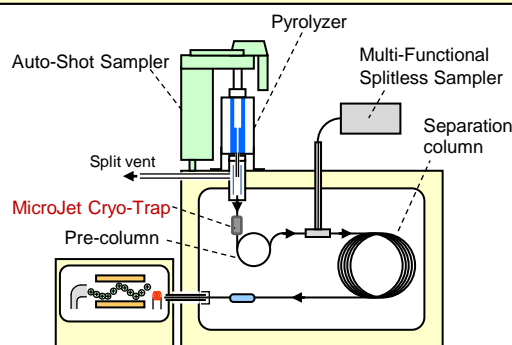
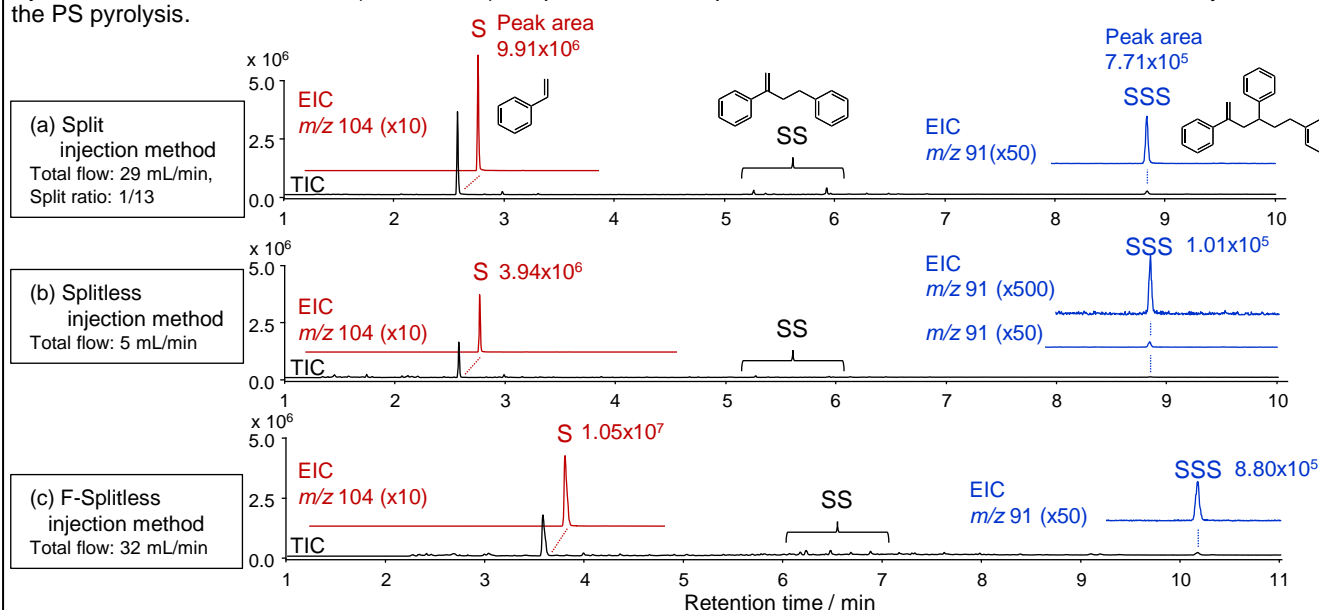

Fig. 1 System configuration of Py-GC/MS using F-Splitless injection method
Fig. 2 Pyrograms of PS obtained by different injection methods.
**[Background]** In pyrolysis (Py)-GC/MS, the split injection method is commonly employed. On the other hand, for trace amounts of analytes, splitless injection can be considered. However, this method may lead to secondary reactions, such as accelerated decomposition, if pyrolyzates are not rapidly moved from the heated furnace. To address this issue, we developed a new Py-GC/MS method using F-Splitless injection method which involves the forced venting of the carrier gas and cryo-trapping of pyrolyzates. This note presents the pyrograms of polystyrene (PS) obtained through both the conventional split/splitless and the F-Splitless injection methods.
**[Experimental]** 1 mg of PS was dissolved in 10 mL of dichloromethane and subsequently diluted according to the split ratio so that 10 ng of PS is introduced into the separation column. The sample was put in a sample cup, followed by evaporation of the solvent. Py-GC/MS measurements were carried out at a furnace temperature of 550 °C using the system shown in Fig. 1 with the total flow rate given in the caption of Fig. 2.
**[Results]** The pyrograms of PS obtained by different injection methods are shown in Fig. 2. Styrene monomer (S), dimer (SS), and trimer (SSS) peaks are observed with variations in the peak area ratio of SSS/S. With the splitless injection method, the low total carrier gas flow rate promotes the decomposition of SSS and results in the reduced peak areas and alters the pyrolysis behavior differed from that observed with the split injection method (split ratio: 1/13). On the other hand, the F-Splitless injection method suppresses the decomposition of SSS, resulting in a similar pyrolysis behavior to that of the split injection method. The next note (PYA1-155E) will provide the comparison of SSS/S, an indicator of the secondary reaction in the PS pyrolysis.